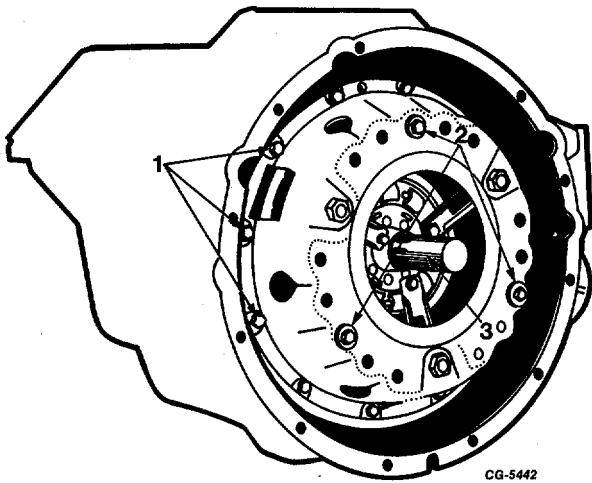

Fig. 150 Clutch Installation to Flywheel
22. Place the clutch driven disc against the flywheel so the long portion of the hub is toward the rear. Place the clutch in position on the flywheel over the clutch driven disc, install two or three mounting bolts and lockwashers loosely. Install a clutch aligning arbor, if available, or a transmission main drive gear shaft, Figure 150, through the clutch driven disc hub spline and into the clutch pilot bearing. Hold the clutch driven disc in position while completing installation of the remaining mounting bolts and lockwashers in the flange of the clutch backing plate or cover. Tighten all bolts